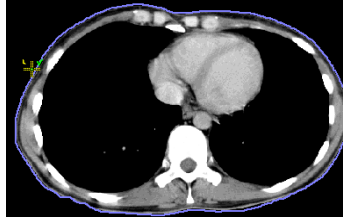

Figure 261 – Defining the left point of the bolus
- Define the leftmost point of the bolus by clicking the contour. The cursor marked as **L** will also be displayed with a green tick when it reaches the contour line of the currently selected ROI (see Figure 261).